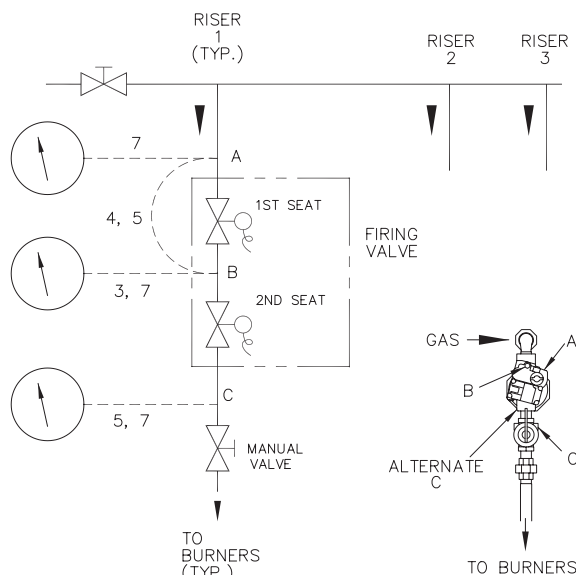

Fig. 42: Leak Test
Refer to Fig. 42. The numbers on the diagram refer to the steps below:
6. Perform leakage test on gas valves. (See Fig. 42.)